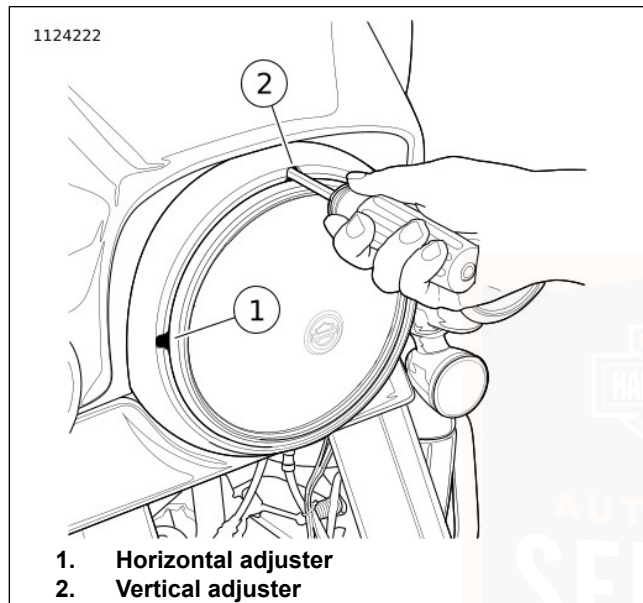
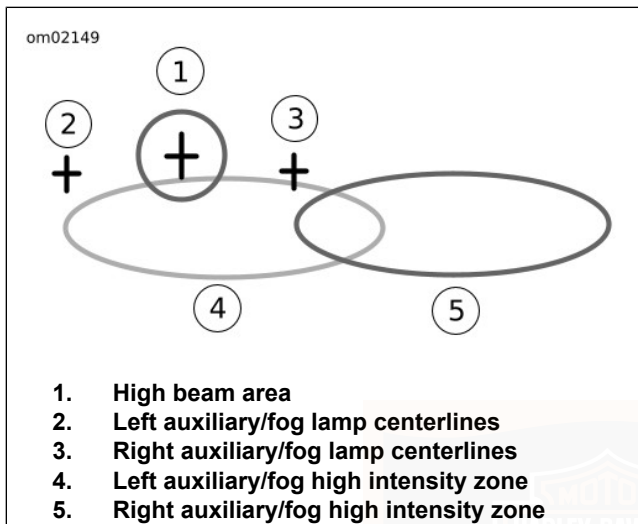

Figure 84. Headlamp Adjusters: All except Frame-Mounted Fairing (typical)
Figure 86. Headlamp Pattern: Quartz Halogen Type
2. **All except frame-mounted fairing:** See Figure 84. Insert a 5/32 in ball end hex wrench through adjuster slots in trim ring.
- a. **Horizontal:** Turn the horizontal adjusting screw (1) to adjust light beam left and right.
- b. **Vertical:** Turn the vertical adjusting screw (2) to adjust light beam up and down.
- c. See Figure 86 or Figure 87. Adjust headlamp light beam.
4. See Figure 86 or Figure 87. Mark the auxiliary/fog lamp horizontal and vertical centerlines (2, 3) on the wall.
Figure 86 shows a pattern for motorcycles in countries that drive in the right lane. Flip the graphic horizontally for countries that drive in the left lane.
- a. **Quartz halogen:** Adjust the left auxiliary/fog lamp so the entire high intensity zone (4) is below and to the right of the left auxiliary/fog lamp centerlines as shown in Figure 86.